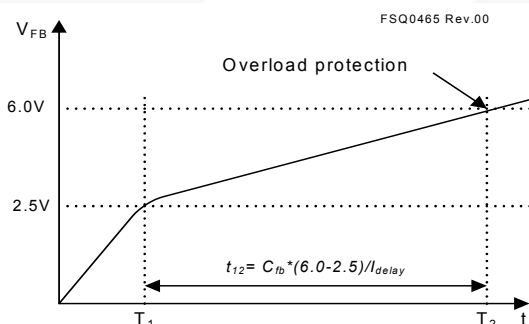

Figure 29. Overload Protection
4.1 Overload Protection (OLP): Overload is defined as the load current exceeding its normal level due to an unexpected abnormal event. In this situation, the protection circuit should trigger to protect the SMPS. However, even when the SMPS is in the normal operation, the overload protection circuit can be triggered during the load transition. To avoid this undesired operation, the overload protection circuit is designed to trigger only after a specified time to determine whether it is a transient situation or a true overload situation. Because of the pulse-by-pulse current limit capability, the maximum peak current through the SenseFET is limited, and therefore the maximum input power is restricted with a given input voltage. If the output consumes more than this maximum power, the output voltage (V_O) decreases below the set voltage. This reduces the current through the opto-coupler LED, which also reduces the opto-coupler transistor current, thus increasing the feedback voltage (V_{FB}). If V_{FB} exceeds 2.5V, D1 is blocked and the 5 μ A current source starts to charge C_B slowly up to V_{CC} . In this condition, V_{FB} continues increasing until it reaches 6V, when the switching operation is terminated, as shown in Figure 29. The delay time for shutdown is the time required to charge C_B from 2.5V to 6V with 5 μ A. A 20 ~ 50ms delay time is typical for most applications.